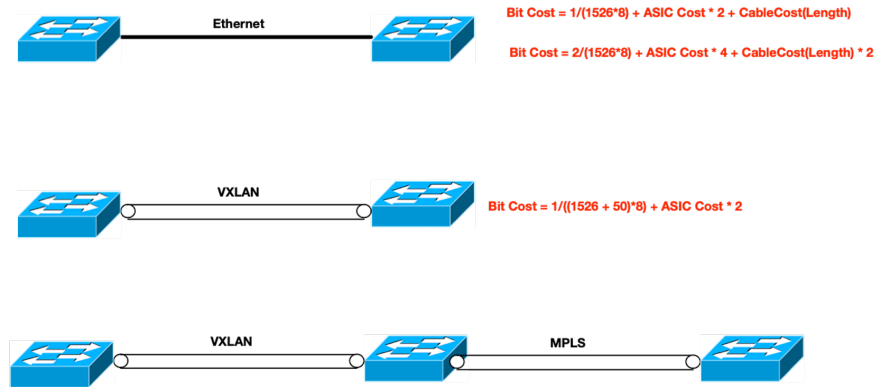

Figure 3 Bit Cost Protocol Overhead
Bit Cost should include protocol and acknowledgement overhead. Bit Cost (BC) should also take into consideration the active path the packet traverses. Figure 3 gives more details on Bit Cost for various kinds of transports.